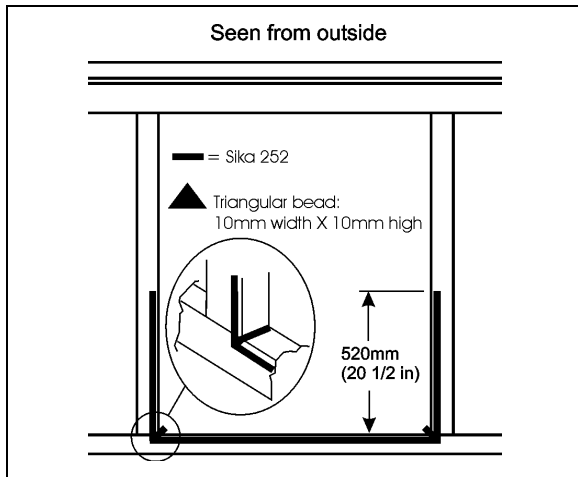

FIGURE 70: AWNING WINDOW – SIKA 252 APPLICATION
7. Apply Sika 252 as per FIGURE 70 (triangular bead: 10mm width X 10mm high) [10mm≈3/8”];